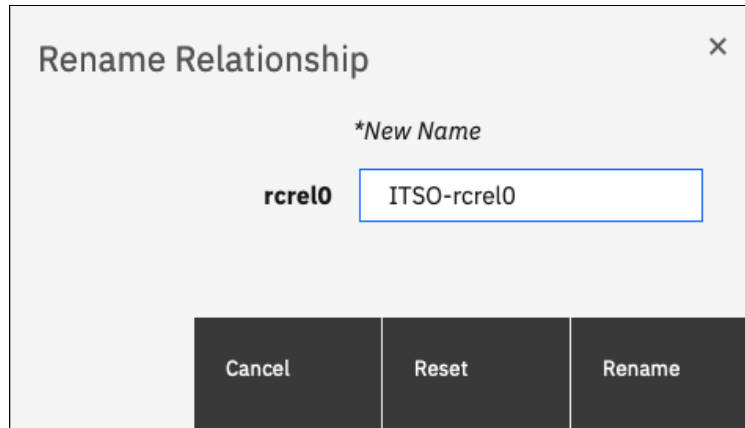

Figure 10-127 Renaming Remote Copy relationships
4. Enter the new name that you want to assign to the relationships and click **Rename**, as shown in Figure 10-127.